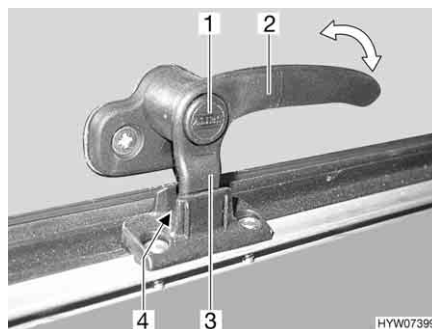
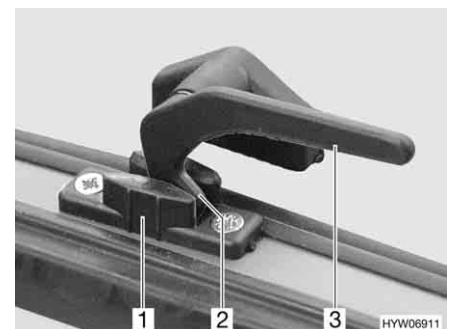

Fig. 97 Catch lever with safety knob in "continuous ventilation" position
Fig. 98 Catch lever in the "continuous ventilation" position
- "Continuous ventilation" (Fig. 97 and Fig. 98)
- Press and hold the security button (Fig. 97,1), if present.
- Turn all catch levers (Fig. 97,2 or Fig. 98,3) a quarter turn towards the centre of the skylight.
- Return all catch levers to their initial position. The locking catch (Fig. 97,3 or Fig. 98,2) has to be moved into the recess of the skylight lock (Fig. 97,4 or Fig. 98,1).